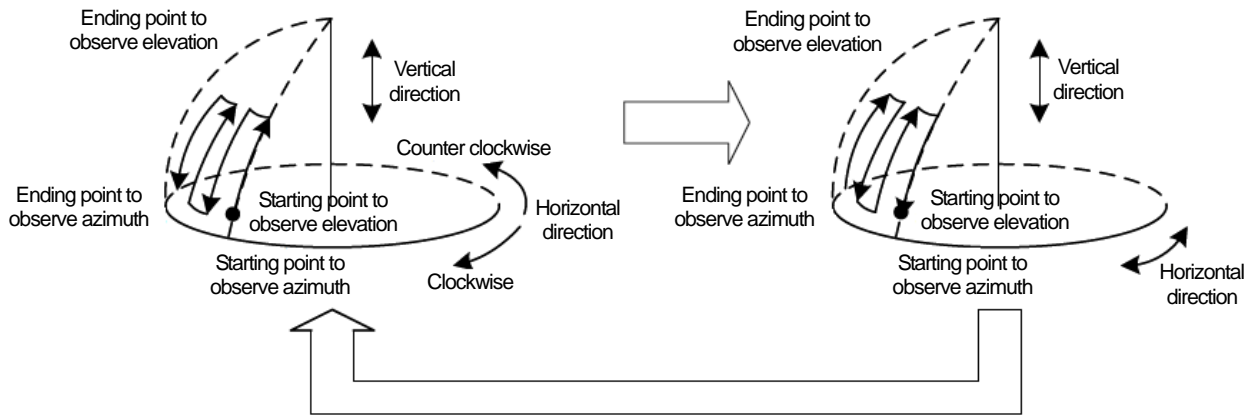

Figure 1. SRHI scan mode
- **Sector RHI scan (3D data):** (ref. Fig.1)